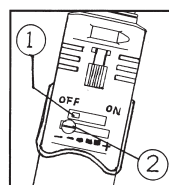

Fig. 2
1. Turn on/off button from left (off) to right (on) for ignition. See Fig. 2.
3. Turn on/off button from left (off) to right (on) for ignition. See Fig. 2.